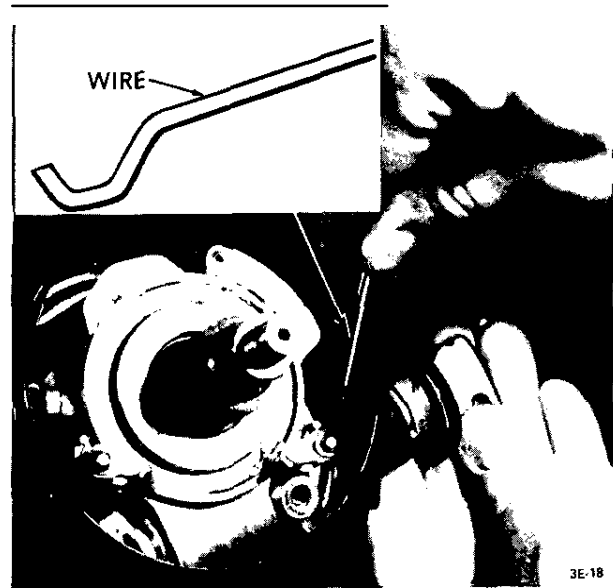

Figure 3E-18 Removing Lock Cylinder
2. Loosen steering shaft upper universal joint lower clamp bolt. See Figure 3E-19.